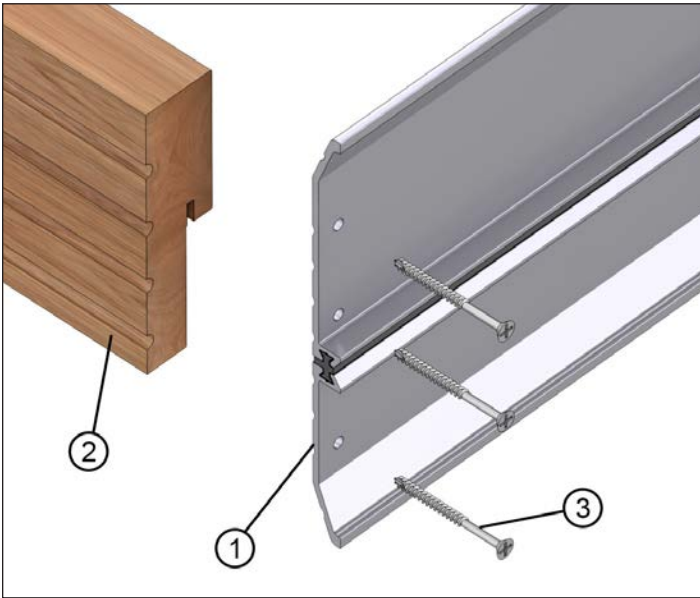

Figure 4
6. Assembly ADA sill using the predrilled holes fasten screws through sill and into side jamb. See figure 4.